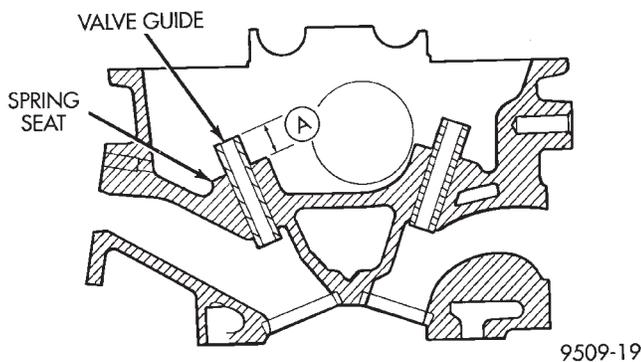

Fig. 88 Valve Guide Height
(3) Check valve guide height (Fig. 88).